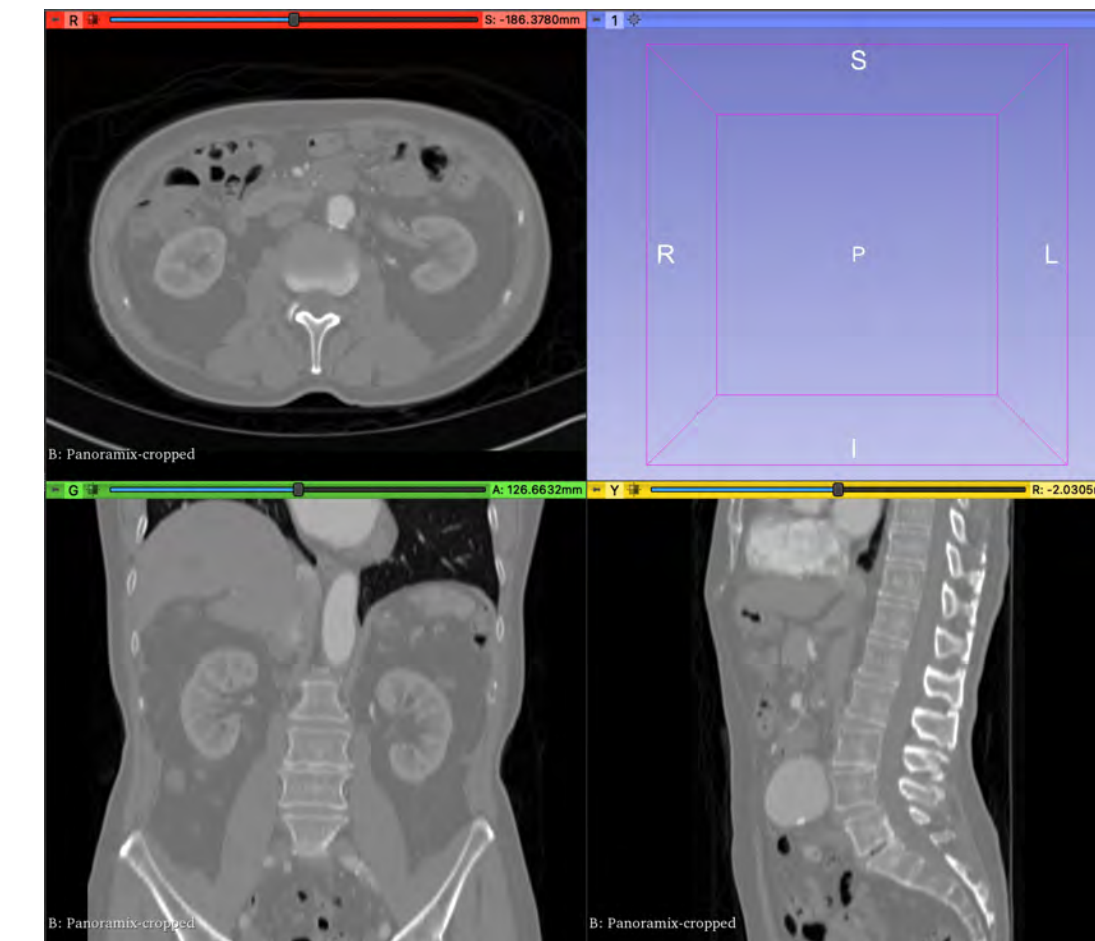

Figure 1:
(1) 3D Slicer (Segmentation):
- A mesh of a CTA abdomen was imported shown in Fig. 1.